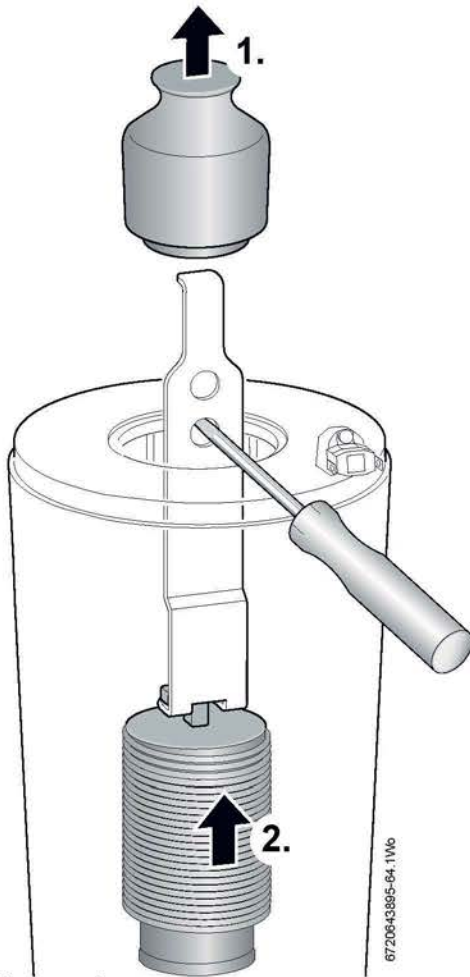

Fig. 66 Baffle removal
1. Refer to figure 66 and remove top baffle.
i If the lower baffle is stuck, it may be necessary to use the "Baffle removal tool" from the heat exchanger cleaning kit - 7 716 192 312, as shown in figure 66.
The baffles (1) and (2) must be refitted into the heat exchanger in the order shown in figure 66. Failure to do so may result in damage to the boiler.